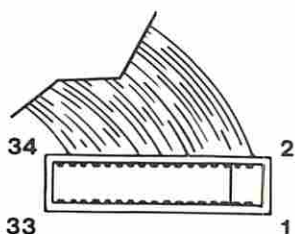

Figure 7. Signal Cable Voltage Check
- Check the voltage at pin 28 on the signal cable (Figure 7).